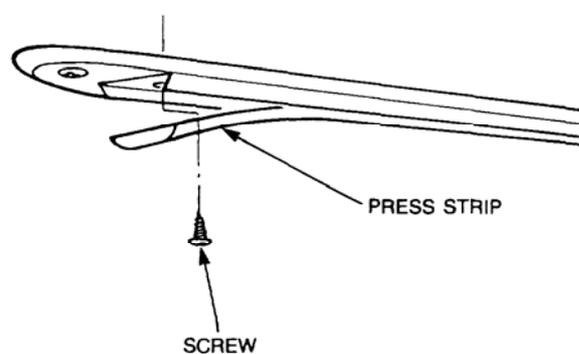

Figure 20 Communication Switch Removal
- Remove the rubber press strip (refer Figure 20) to allow access to the contact strip and retaining screws.